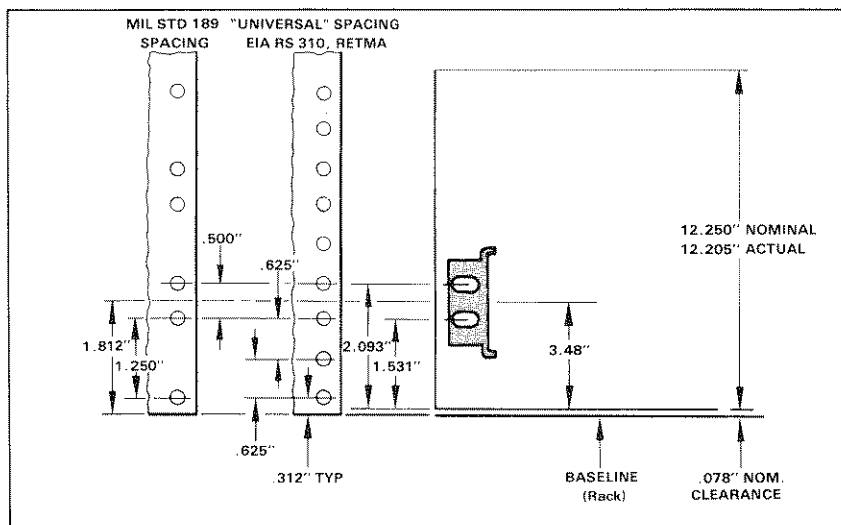

Figure 1-2. Rackmount Hole Spacing.
Rackmounting. The 370 fits most commercial consoles and 19-inch racks with rail holes that conform to universal spacing. See Figure 1-2 for hole spacing details. When rackmounting the 370, take note of the following:
1. Select the appropriate holes in the rack rail, using Figure 1-2 as a guide.